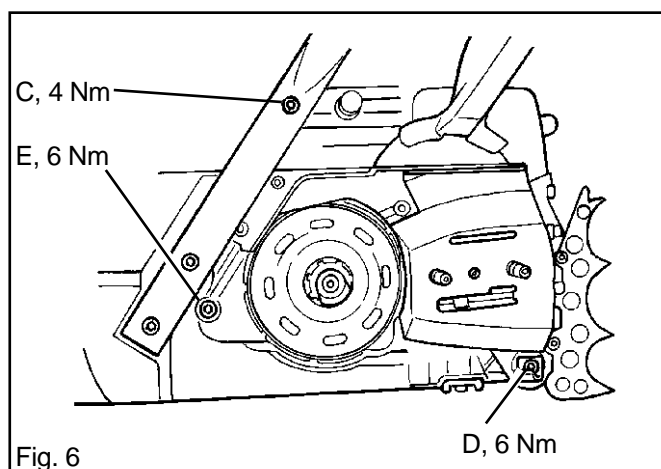

Fig. 6
9. Fit the bolts (C and D), chain catcher and travel limiter bolt (E) on the clutch side. See fig. 6. Tighten the bolts to the torque shown on the diagram.